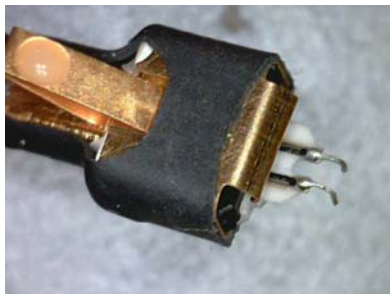

Figure 54 N5439A ZIF Probe Head
- 2 Prepare the N5439A ZIF probe head for connection to the PV fixture as shown in Figure 54.